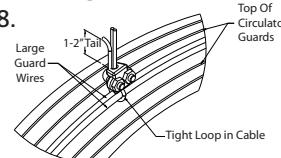

Figure 8 — Cable Clamp Detail
8. Attach the secondary safety support cable used to give additional protection in the event of failure of other mounting hardware and brackets. To ensure proper installation of the secondary safety support cable, carefully read and follow all steps starting on page 3, Figure 8.
8. Attach the secondary safety support cable used to give additional protection in the event of failure of other mounting hardware and brackets. To ensure proper installation of the secondary safety support cable, carefully read and follow all steps starting with Figure 8.
12. Attach the secondary safety support cable used to give additional protection in the event of failure of other mounting hardware and brackets. To ensure proper installation of the secondary safety support cable, carefully read and follow all steps starting with Figure 8.
1. Loop one end of the cable around the large diameter wires of both the front and rear guard as shown in Figure 8.